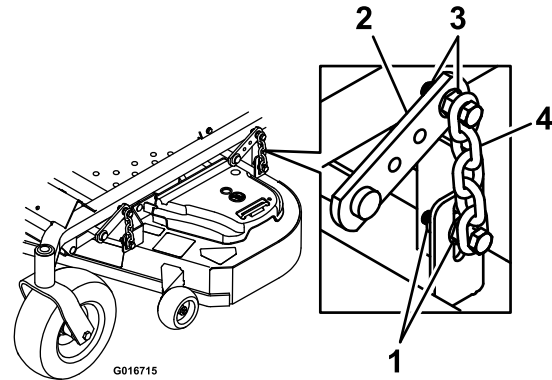

Figure 27
10. Loosen the leveling adjust locking nuts (item 1 Figure 27) on all four corners so that the deck is sitting securely on all four blocks. Make sure that the slack is removed from the deck hangers and the deck lift foot lever is pushed back against the stop, then tighten the four leveling adjust locking nuts.
7. Loosen the leveling adjust locking nuts (item 1 Figure 27) on all four corners so that the deck is sitting securely on all four blocks. Make sure that the slack is removed from the deck hangers and the deck lift foot lever is pushed back against the stop, then tighten the four leveling adjust locking nuts.